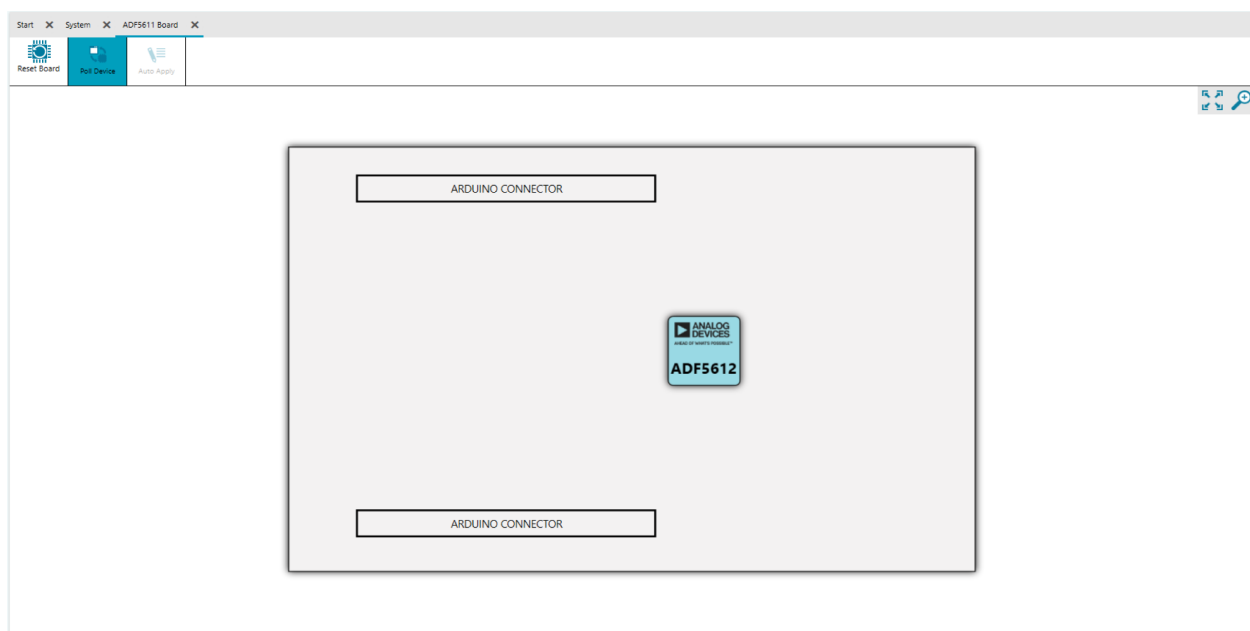

Figure 4. ACE Board Page, Device Selection
2. Double click the **ADF5612 Board** icon in the **Attached Hardware** tab to launch the plugin board view as shown in **Figure 4** then appears.